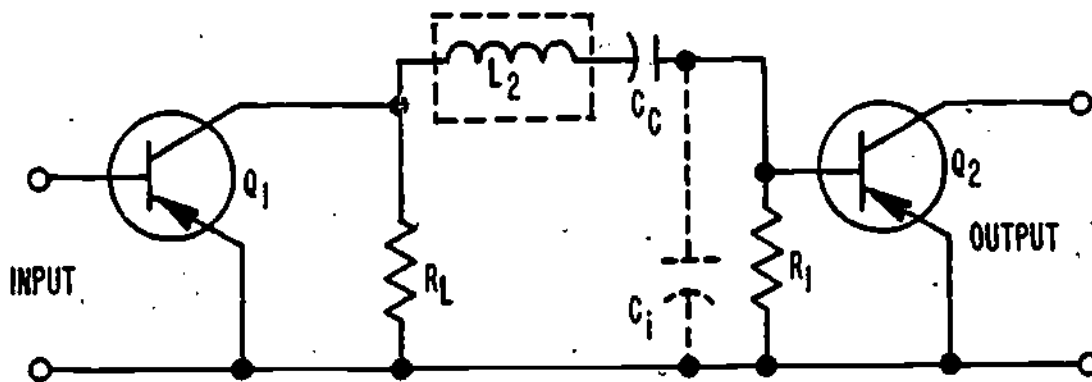

Figure 14
13. Shunt type compensation has improved the high frequency response of the basic video amplifier. However, the improved frequency response still may not be high enough for some applications. Fortunately, there is another way to improve the high frequency response of a video amplifier. This is done by adding an inductor in series with the signal path and C_i as shown in Figure 14.
In Figure 14, the L_2 - C_i circuit at resonance (maximizes/minimizes) the impedance between Q_1 and Q_2 and (increases/decreases) the voltage applied to Q_2 .